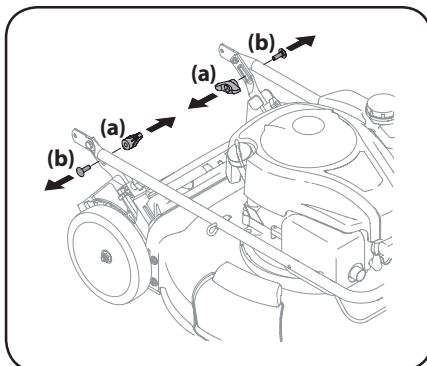

Figure 2-1
2. Remove wing knobs (a) and carriage bolts (b) from handle as shown in Figure 2-1. Do not loosen or remove adjacent hex head screws.